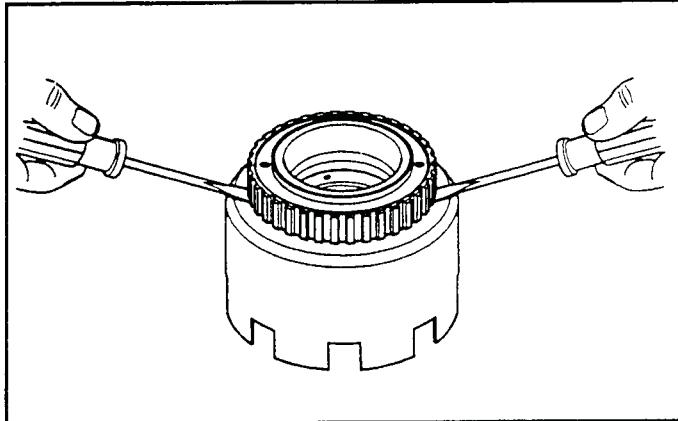

Figure 147
11. Remove the 2nd roller clutch assembly retainer (450) by prying up on the roller clutch outer race with two large screwdrivers, as shown in Figure 147. The 2nd roller clutch retainer is pressed onto the reverse input clutch housing, ***and is not reusable after being removed.***